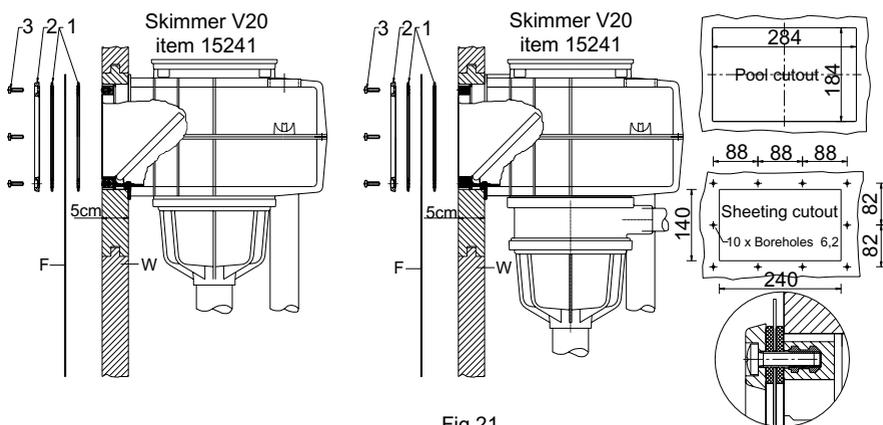

Fig 21
3.6 Installing V20 and VS30 skimmers in wooden tubs with liners (Fig 21)